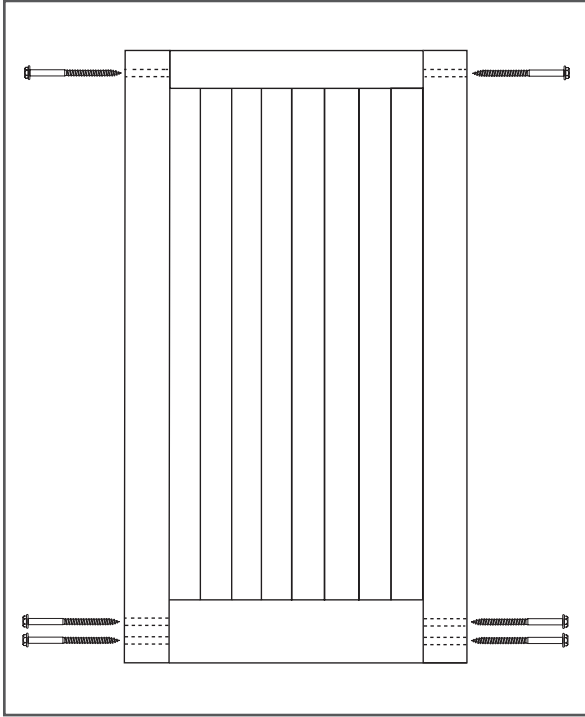

Figure 5
5. Fix the door assembly with six 6" lag screws (E), using a socket wrench with a 7/16" socket (Figure 5).